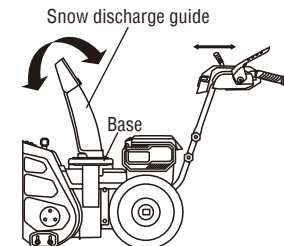

Fig. 10B
1. To increase or decrease the distance that the snow is thrown, pull the chute deflector handle backward or forward to raise or lower the chute deflector (Fig.10B).